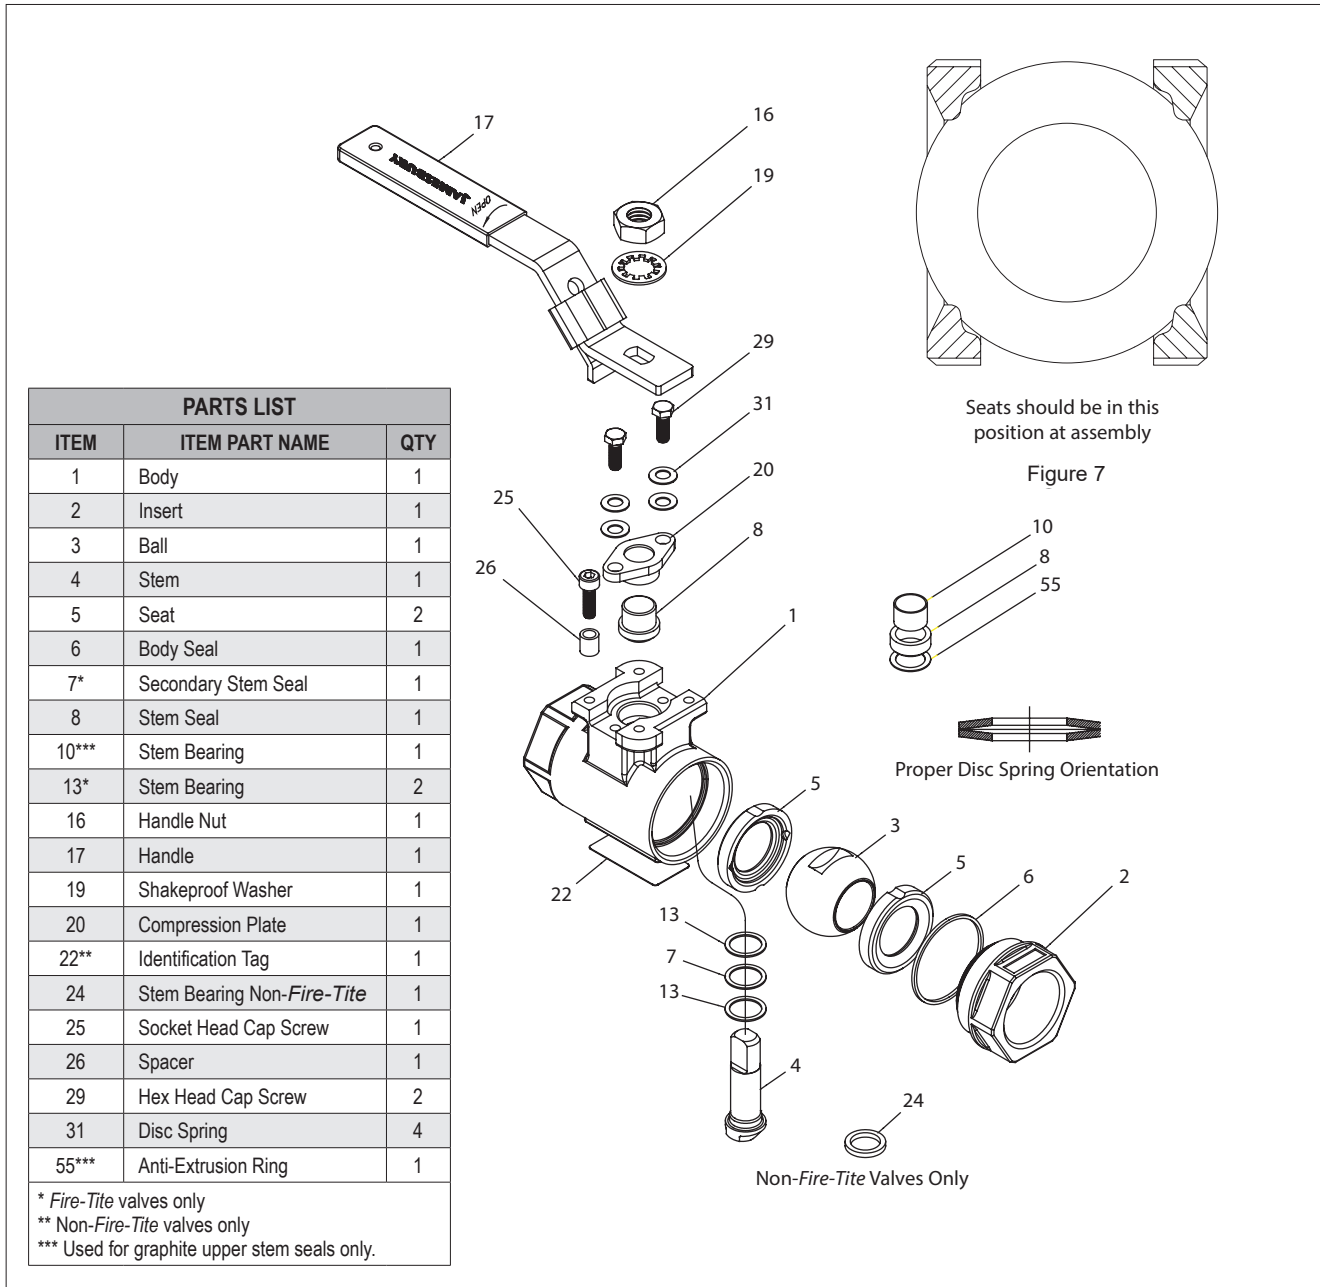

Figure 8
- c. From **Figure 8**, the ballooned part number, part name and quantity required.